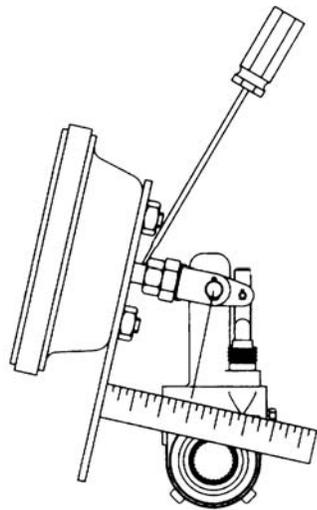

Figure 12 – Free Stroke
3. **Free stroke** is the amount of movement of the slack adjuster arm required to move the brake shoes against the drum. With the brakes released, measure from the face of the air chamber to the center of the large clevis pin. (see figure 12)